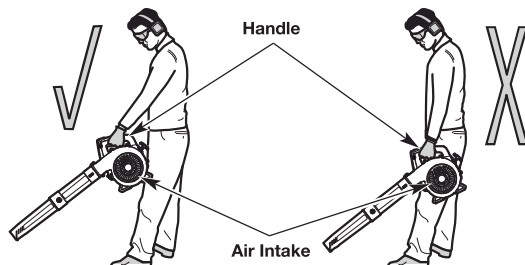

Fig. 12
Stand in the operating position (Fig. 12). Stand up straight. Do not bend over.
To prevent serious personal injury or damage to the unit, **DO NOT** hold the unit at your side (Fig. 12). The engine may be extremely hot. **DO NOT** block the air intake.
- Hold the unit in front of, and away from, your body (Fig. 12)